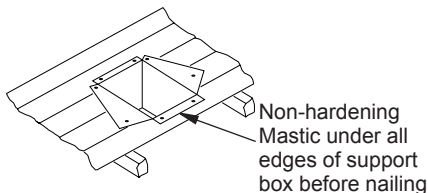

Figure 28 - Installed Cathedral Ceiling Support Box
4. Using tin snips, cut support box from top corners down to roofline and fold resulting flaps over roof sheathing (see Figure 28). Apply a bead of non-hardening mastic around top edges of support box to make a seal between box and roof. Nail in place with roofing nails. Remove any combustible material that might be inside of support box.